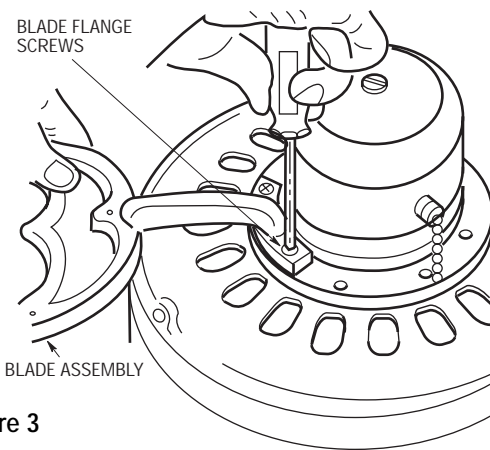

Figure 3
- 8. Attach blade assembly to motor hub using two 1/4-20 x 7/16" blade flange screws. Make sure the screws are tightened securely (Figure 3). Repeat this procedure for other four blade assemblies.